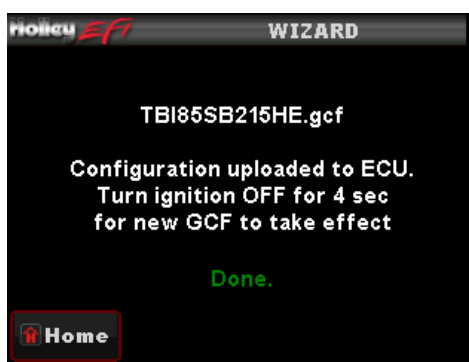

Figure 19
12. After entering the ignition type, your calibration will be created. Press the “Upload” button to send the calibration to the ECU (**Figure 17**). You will then see a screen showing “Uploading”. Finally you will see a screen indicating the file is uploaded (**Figure 19**). Cycle the ignition switch for the calibration to take effect.